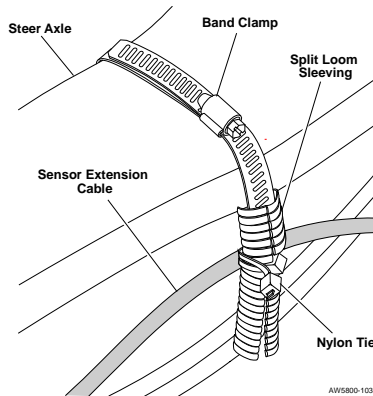

Figure 20. Securing the Sensor Extension Cable
5. Routing the sensor cable: Run the drive sensor extension cable along the rear of the axle towards the side of the truck (driver's side or passenger's side), securing with a band clamp (p/n: 139-0016-000). Place split loom (p/n: 380-0004-001) over the band clamp where it crosses over the cable. Secure the cable to the band clamp with nylon ties (p/n: 145-4552-001). See Figure 20. Use additional 24" nylon ties (p/n: 145-0007-000) as required to secure the cable to the steer axle.